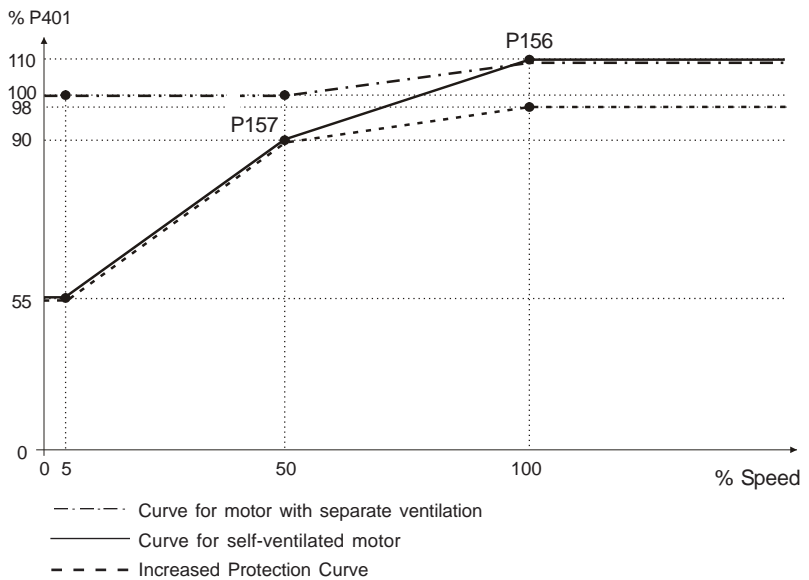

Figure 6.18 - Overload protection levels
- The overload current is given as a function of the motor speed. The parameters P156, P157 and P158 are the three points used to form the overload curve, as shown in Figure 6.18 with the factory default levels.